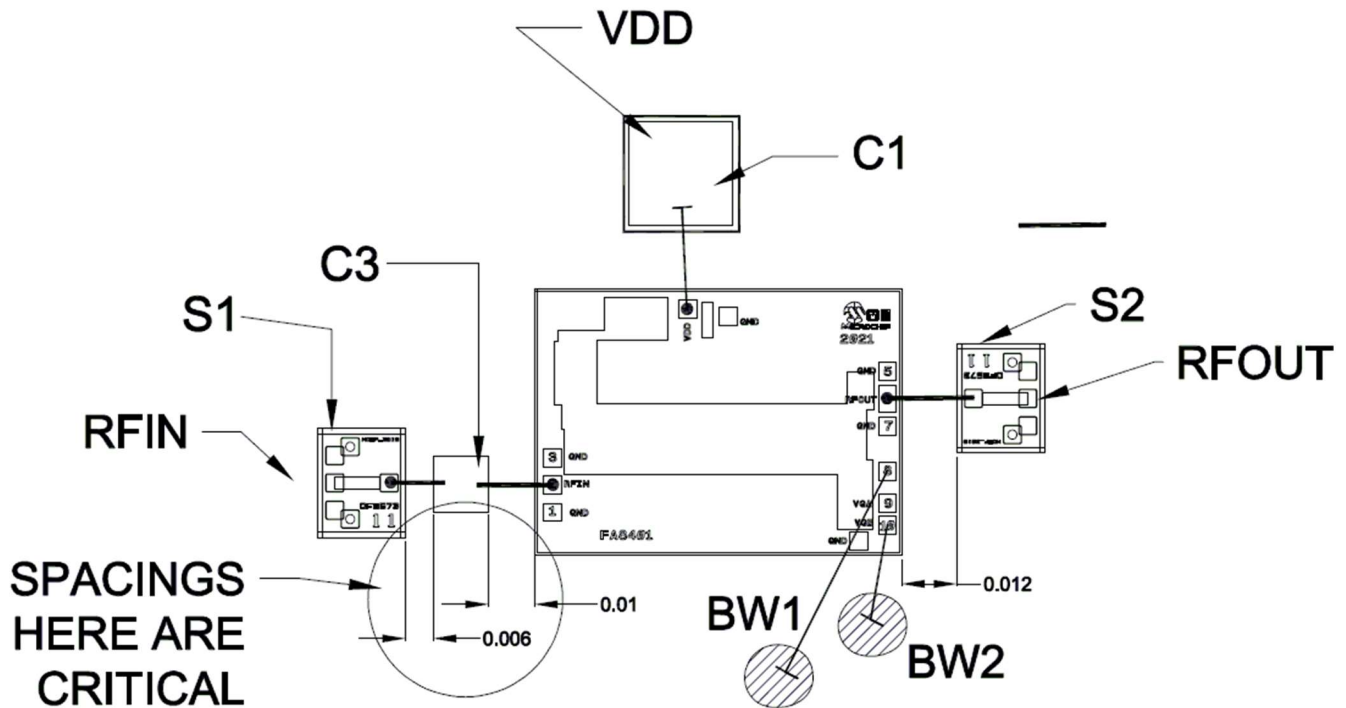

Figure 73 - Applications Assembly with Cap C3 to substitute PIN Diode D1 on Figure 72 -
1.3.5 Typical Performances for Applications Circuit with SLC Capacitance (Figure 73 -)
The following graphs show the typical performance curves of the MMA047AA device at 25 °C, measurements performed using application circuit shown on Figure 73 -below.